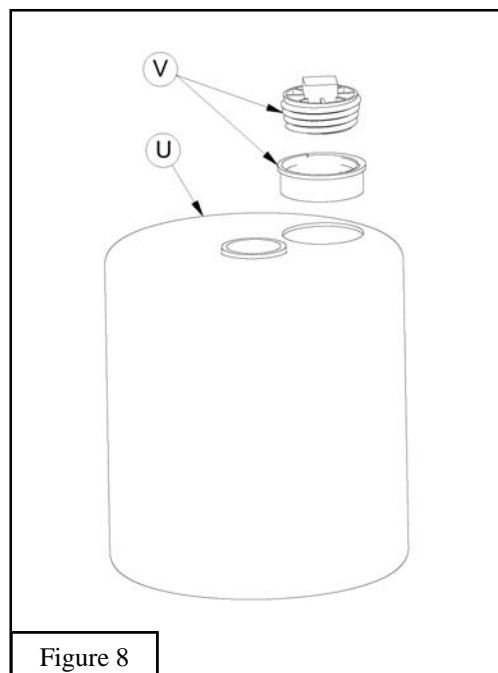

Figure 8
12. Fill each *Ballast Drum* (U) **completely** with sand, make sure the sand is compacted. They should hold approximately 60-75 pounds of sand each. Once full install the *Plug Assembly* (V) and tighten securely to ensure there is no sand escaping. See Figure 8.